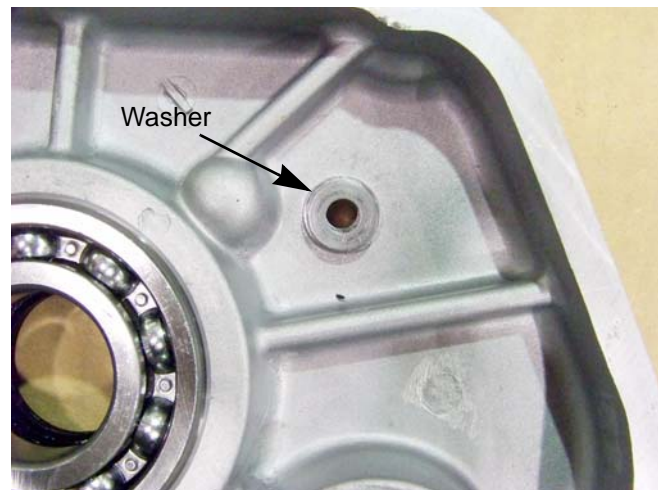

Figure 4.45
5. Install the governor gear and cup assembly by placing the washer on the inside of the crank case cover. See Figure 4.45.